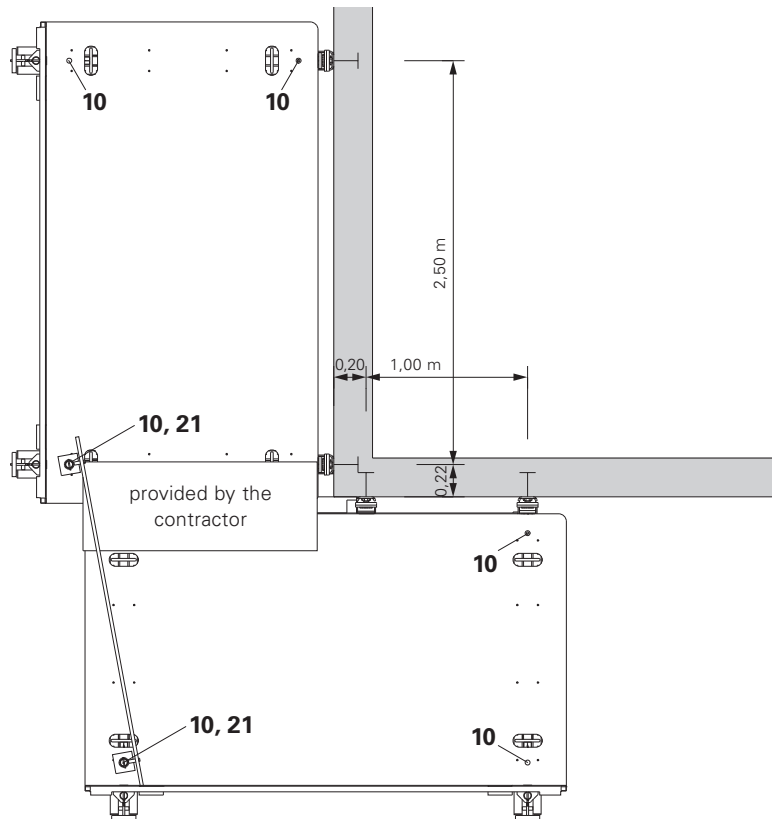

Fig. A4.05
1. On the open end of the Folding Corner Platform, screw 2 x End Posts FBP (21) into the Universal Couplers (10).
3. The gap in the decking between the Folding Corner Platform and the Main Platform around the corner is closed with material supplied by the contractor. (Fig. A4.05 + A4.06)